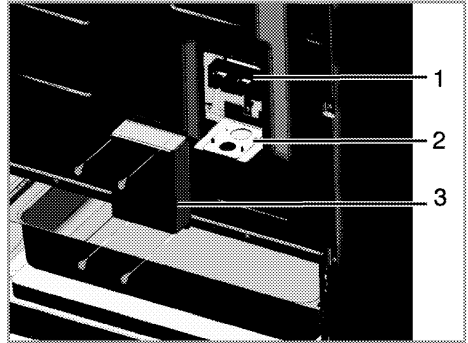

Fig.4
Loosen the screws on rear acces cover and take off the terminal block cover see Figure 4.
1 - Remove the terminal block cover (on the back of the range) by removing the screws as shown in Figure 4.
- 1- Remove the terminal block cover (on the back of the range) by removing the screws as shown in Figure 4.